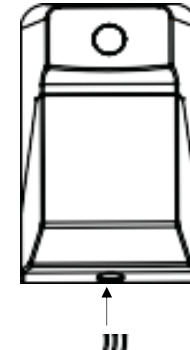

Figure 10
7. Feed the incoming power wires through the open luminaire receptacle, and then attach electrical conduit (see Figure 10). For additional protection against moisture intrusion, apply waterproof silicone around the perimeter of the conduit receptacle before attaching conduit.